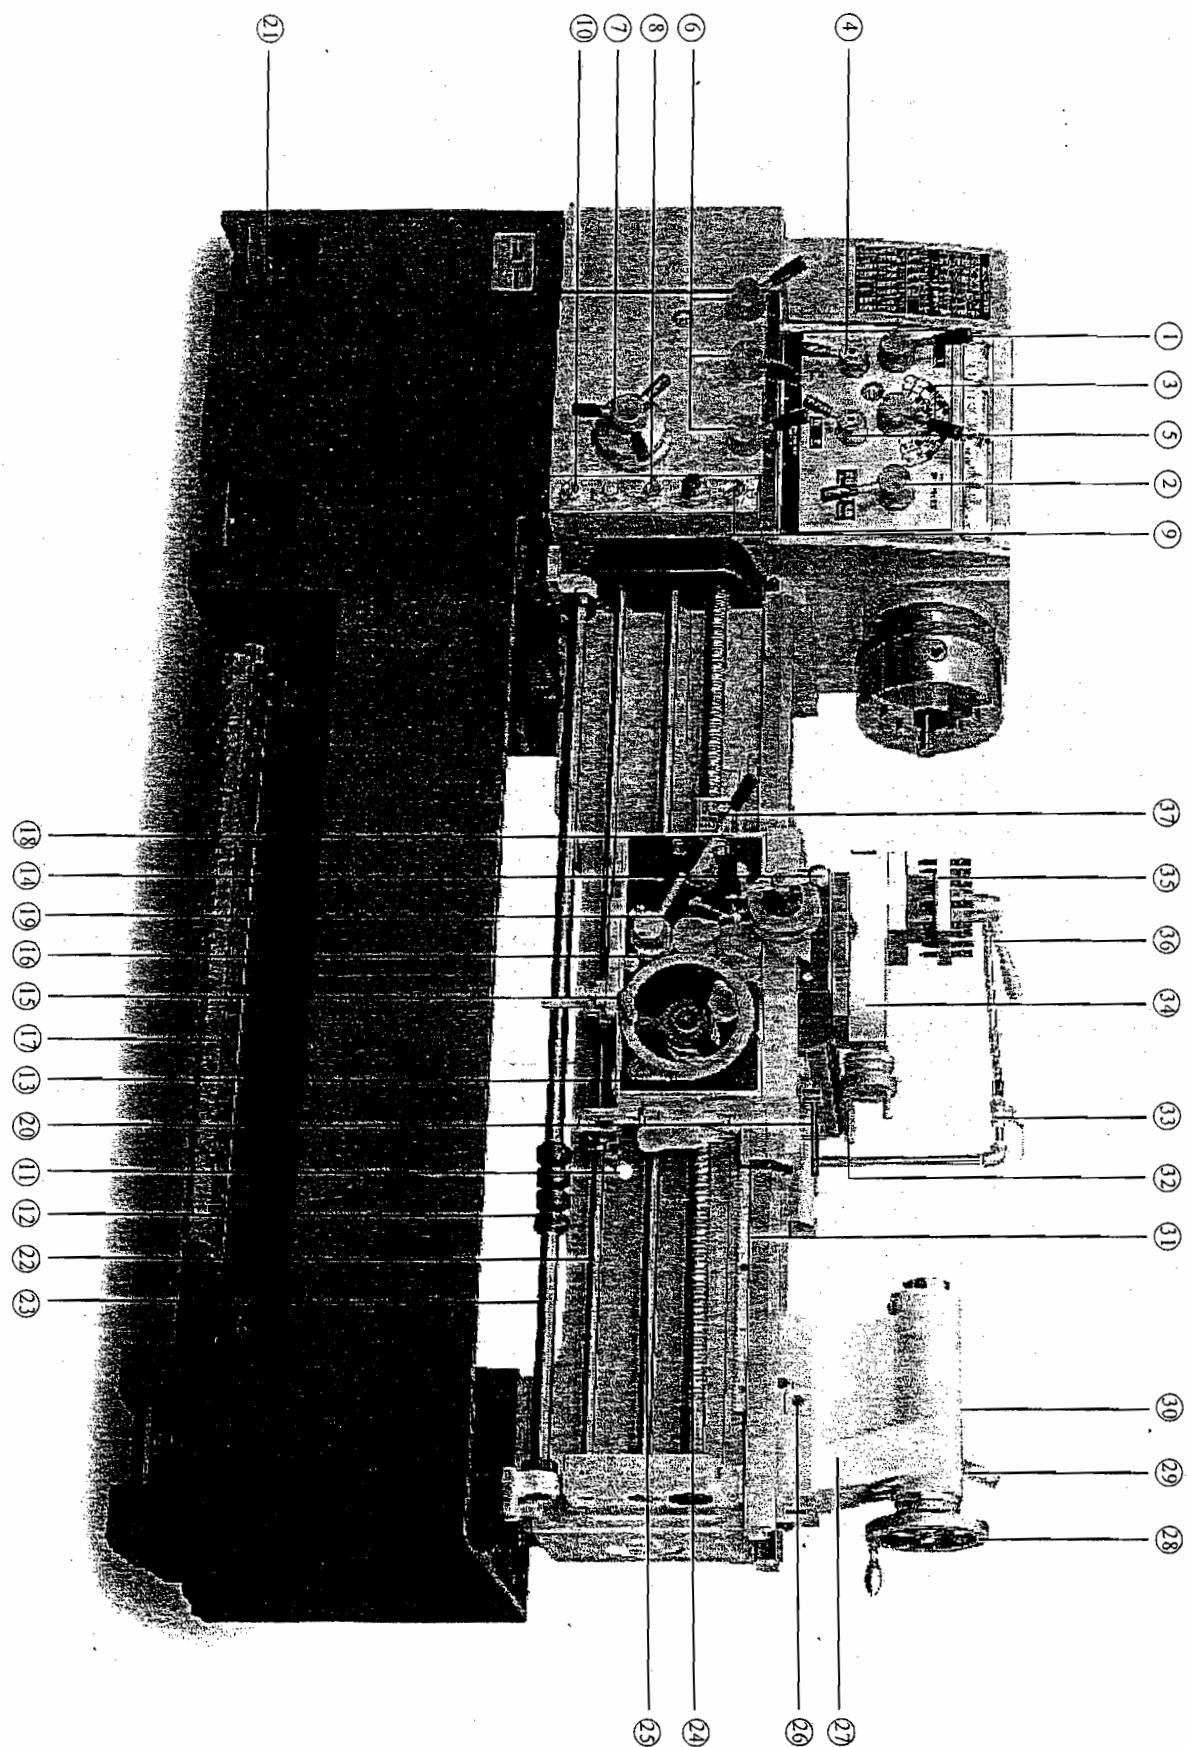

Fig. 1-1
Position the spindle speed H/L shifting lever ② to "L", the spindle speed shifting selection lever ③ to the very left side, and forward/reverse shifting lever ④ to "N" position. Lift the spindle operation control lever (11 of figure 1-1), the spindle will rotate forward, press down the lever, the spindle will rotate reverse; in 'Neutral' position, the spindle will stop. For normal forward & reverse revolution, always operate the spindle operation control lever. For emergency stop, step on the foot brake, the spindle operation control lever should push back to 'Neutral' position after stepping the foot brake. Afterward, start the spindle.
Turn the coolant supply button (10 of figure 1-1). Adjust the adjusting valve for the required coolant flow.
Open the end cover to find the gear train transmitting from headstock to gear box, position the forward/reverse shifting lever (④ of figure 1-1) to right side, the spindle will rotate forward; to right; reverse; to Neutral, stop. Do not change the gears while turning.